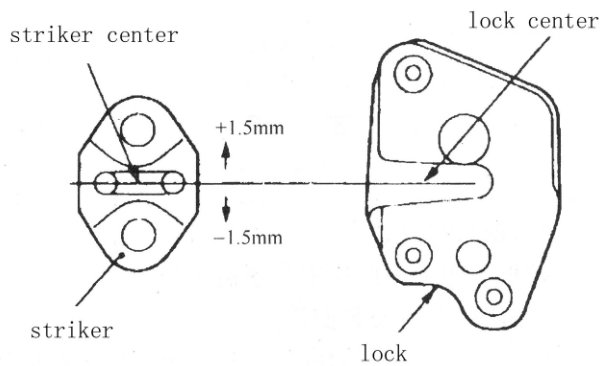
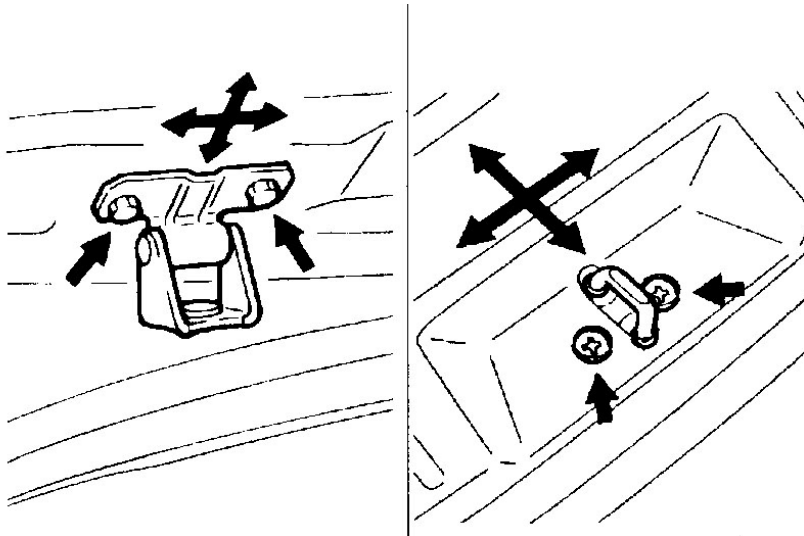

Fig. 18-44
Fig. 18-47
- (1) To adjust the alignment of the door striker and door latch,by moving the shims up and down or outside and inside, see figure18-47. Be sure the dimension tolerance between the center of striker and the center of the latch is $\pm 1.5\text{mm}$, see figure18-44
(2) If the gap between the door and the body side is inconsistent, adjust the attach area of the hinge and the striker. See Fig.18-47.